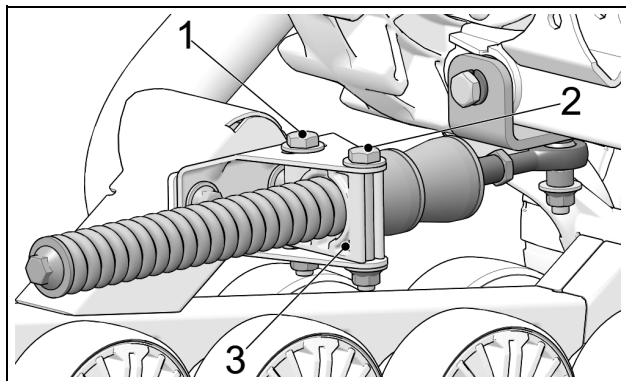

Figure 11
- Verify that the spring assembly bolt (3) is tightened to specification: 30 ft. lbs. (40 Nm).
- Loosen anti-rotation bracket bolts (1) and (2) to allow anti-rotation retainer (3) to rotate on its axis. See Figure 11.